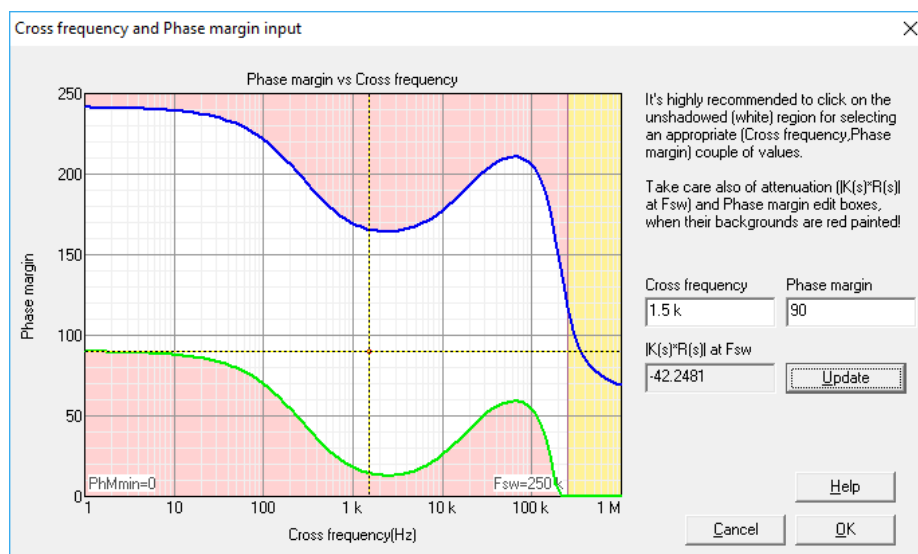

Figure 10: Solution map with the point selected
- Select the phase margin and the crossover frequency of the open loop. SmartCtrl provides the solutions map in order to ease the selection of these parameters. Select a f_c of 1.5kHz and a PM of 90 degrees and click OK to validate the selection. See Figure 10.